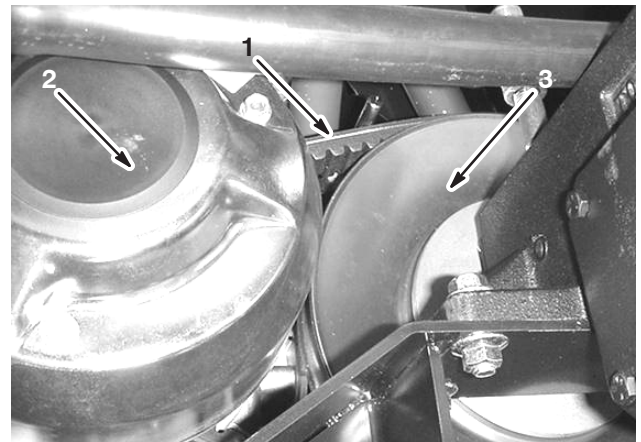

Figure 50
1. Rotate and route the belt over the secondary clutch (Fig. 50).
2. Remove the belt from the primary clutch (Fig. 50).
3. Place the new belt over the primary clutch (Fig. 50).
4. Rotate and install it over the secondary clutch (Fig. 50).